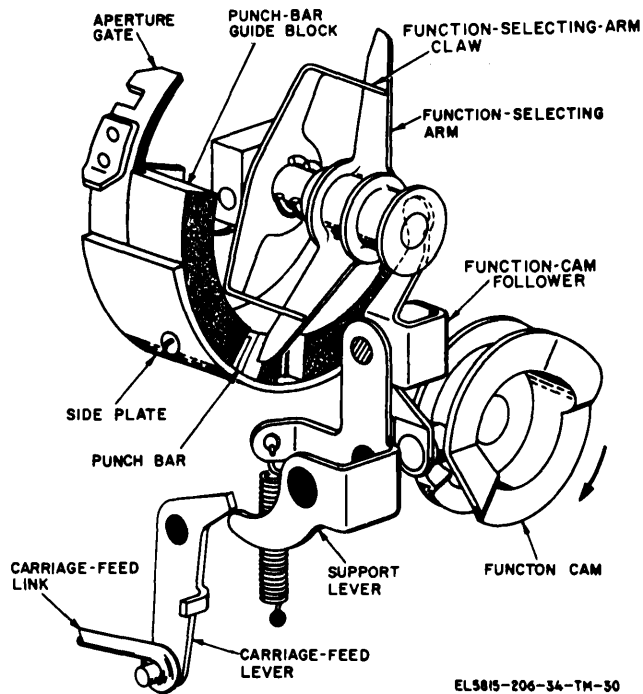

Figure 2-30. Function-selecting arm and associated mechanism.
*c. Carriage-Feed Control.* Movement of the carriage-feed pawl is controlled by the carriage-feed link (fig. 2-29) and the function-selecting arm mechanism (fig. 2-30).
(1) The function-selecting arm is attached to the
square shaft (fig. 2-27) and rotates and stops with the square-shaft stop arm. The function cam, on one end of the function shaft, starts to turn  $\frac{1}{2}$  revolution each time the transfer operation occurs (para 2-19). When a lobe of the function cam pushes the roller end of the function-cam follower (fig. 2-30) the upper arm of the follower pushes the function-selecting arm toward the punch-bar guide block.
(2) When the carriage-feed link is pulled horizontally (fig. 2-29), it pivots the carriage-feed pawl slightly. The latching arm of the carriage-feed pawl releases the carriage-feed ratchet, and the friction clutch rotates the ratchet. Continue rotation of the function cam (fig. 2-30) permits the roller of the function-cam follower to move into a low portion of the cam. The support lever is pulled counterclockwise by its spring which permits the feed-pawl spring (fig. 2-29) to pull the latching arm of the carriage-feed pawl downward into the path of the next tooth on the carriage-feed ratchet. The carriage feed friction clutch again turns the carriage-feed ratchet slightly until it is stopped by the latching arm of the carriage-feed pawl.
(3) Total rotation of the carriage-feed ratchet during operation of the carriage-feed pawl ( (2) above), equals the distance between two teeth of the ratchet. When the ratchet rotates an amount equal to this distance, the carriage-feed driving gear and the carriage-rack driving gear rotate sufficiently to move the carriage one space to the right.
10	Function cam restores function-cam follower. (fig. 2-30).